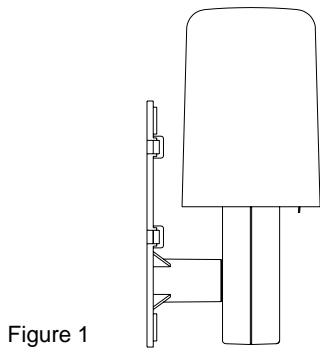

Figure 1
1. One TX8U remote temperature/humidity sensor (Figure 1).